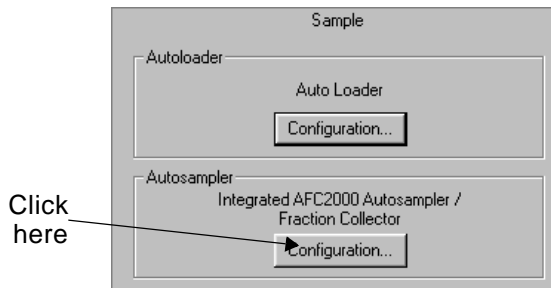

Figure 4-27 Configuring as an Integrated Autosampler
2. In the Autosampler/Fraction Collector section of the Configuration dialog box (Figure 4-27), click the **Configuration** button under Integrated AFC 2000.